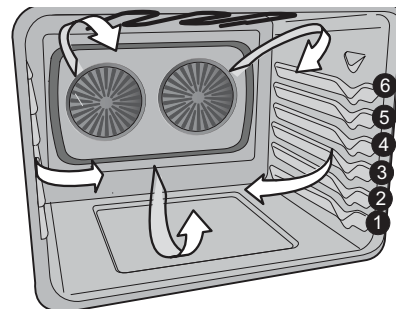

Figure 7: Convection air flow
Convection baking enables you to obtain the best results when baking with multiple pans and racks. The oven can be programmed for convection baking at any temperature between 170°F to 550°F. The convection function uses a fan to circulate the oven heat uniformly and continuously around the oven (Figure 7). This improved heat distribution allows for fast, even cooking and browning results.
- When baking cakes using two oven racks, place Glide rack in position 4 with the flat rack in position 1. (See Figure 7).